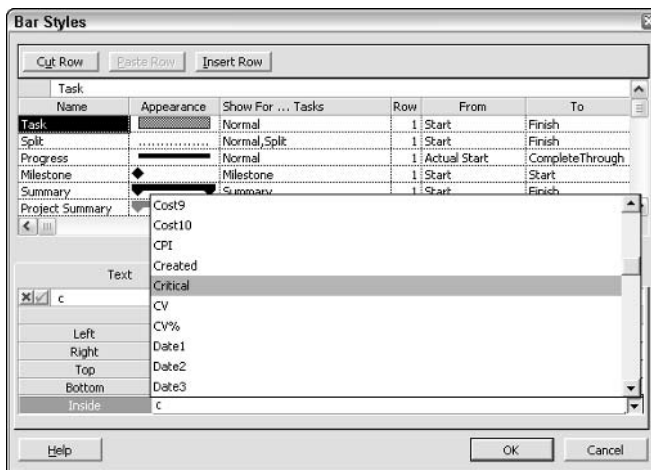

Figure 9-14: Use the Text tab of the Bar Styles dialog box to apply formatting that distinguishes critical from noncritical tasks.
6. Click the list box arrow and scroll to select Critical, as shown in Figure 9-14.